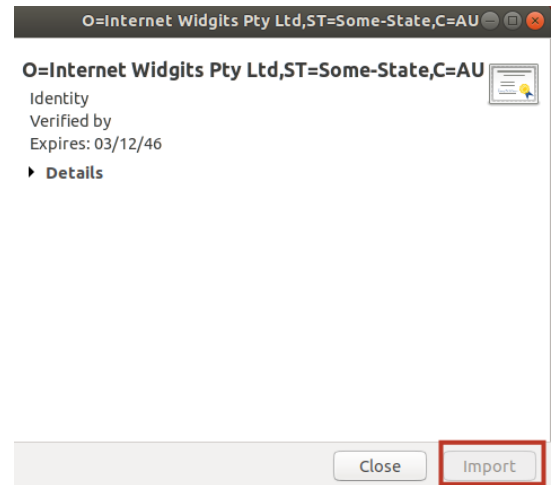

Fig. 14. 'Import...' window
- Save and download the file to the desired location, then run it. A screen similar to the one shown in Fig. 14 will appear. Click on 'Import...'.